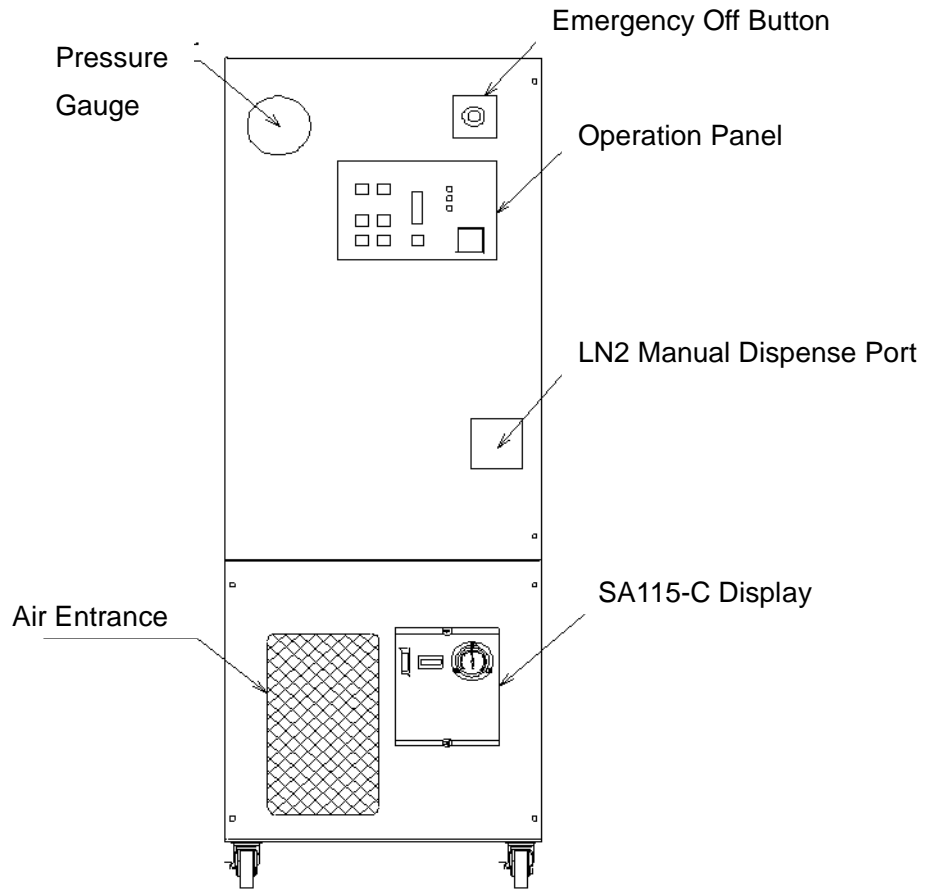

Figure 2-1 Front view of EMP-14A
2.1 Front view of EMP-14A (Figure 2-1)